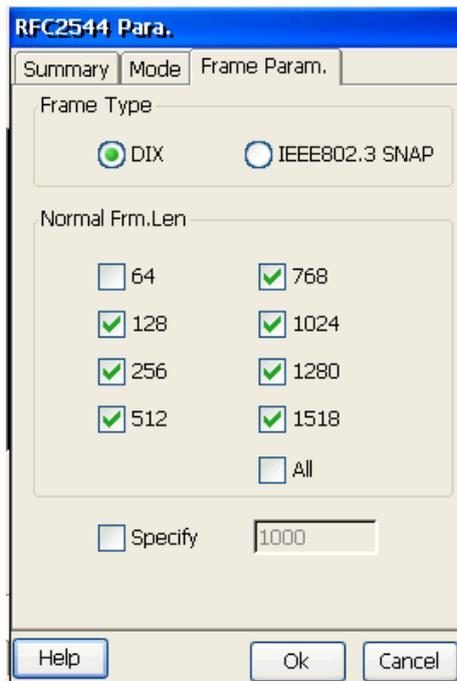

Figure 6.1.4 Frame Parameters Setting
**Step4:** Switch to “Frame Parameters” page, as is shown in figure 6.1.4.